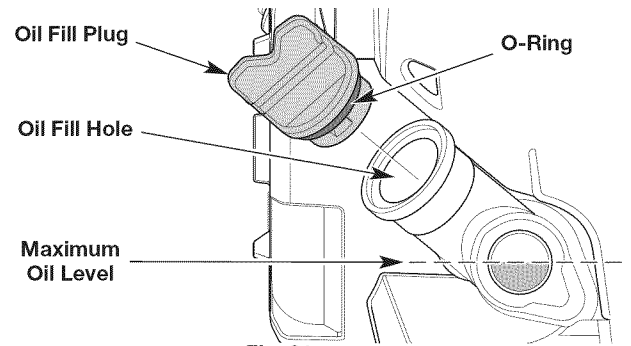

Fig. 21
3. Look into the oil level window; use a flashlight if necessary. **The oil level should fill the window approximately halfway** (Fig. 21). If the oil level is too low, add oil. Refer to *Adding Oil*.
1. Clean the area around the oil fill plug (Fig. 21) to prevent debris from entering the oil fill hole.
3. Add oil to the oil fill hole until the oil level is approximately halfway up the oil level window (Fig. 21).
NOTE: Make sure the O-ring is in place on the oil fill plug (Fig. 21).